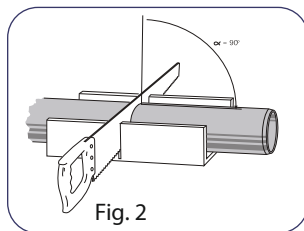
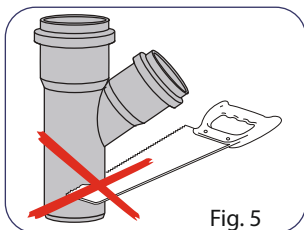

Fig. 2
Fig. 5
a) the pipe should be cut with a fine tooth saw or pipe cutter at a right angle (Fig. 2). It is forbidden to cut fittings (Fig. 5);